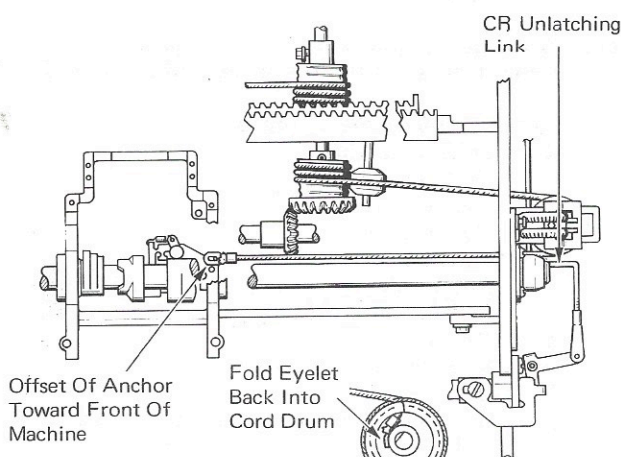

Figure 2
8. Connect the escapement cord to the escapement cord drum and wrap approximately 1 turn of the cord around the drum (Figure 2).